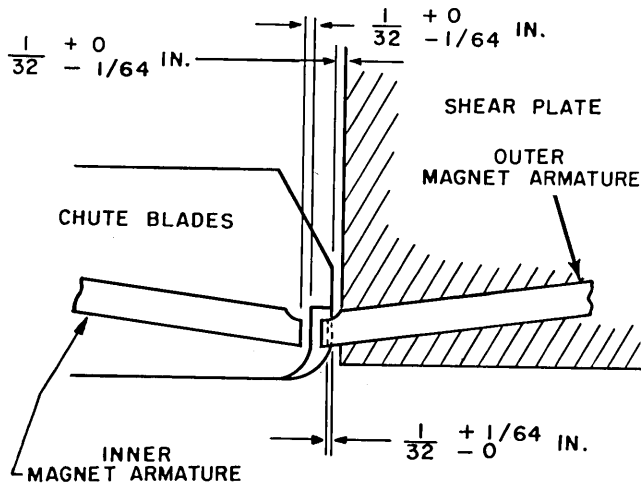

Figure 16. Chute Blade (Top View)
4. Horizontal adjustment of chute blades is shown in Figure 16.
Reverse the above procedure, positioning the chute blade tips to clear the lower card guide plate (Figure 16).